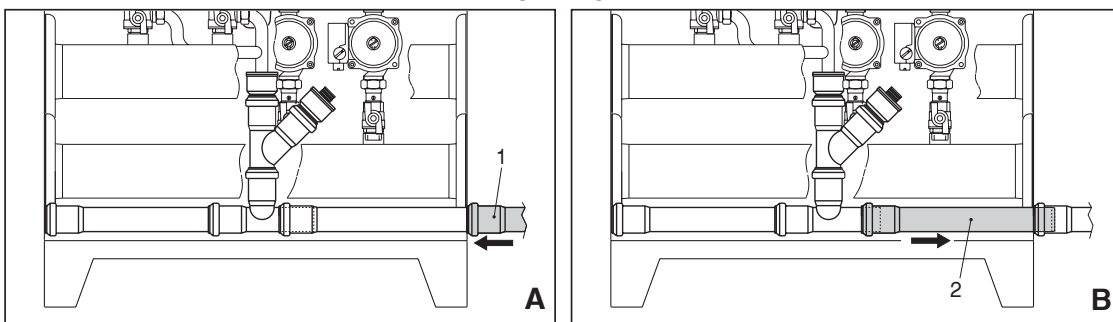

Fig. 7
- Connect a pipe $\varnothing 40$ to the condensate outlet pipe to evacuate the condensate produced during operation (see Fig. 7).